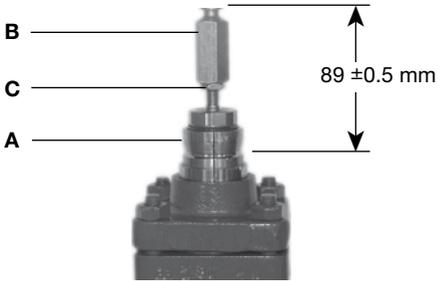

Fig. 9
3. Screw the stem lock-nut (C) down the stem as far as possible.
4. Screw the split collar (A) onto the bonnet as far as possible (Figure 9).